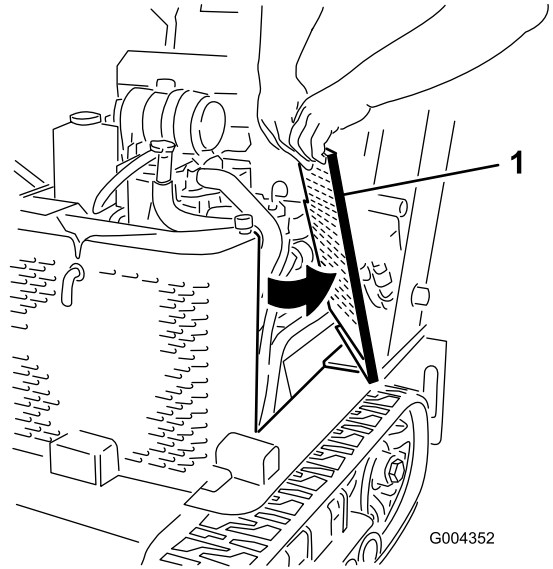

Figure 33
2. Slide the side screens (Figure 33) up and out of the slots in the front screen and frame.